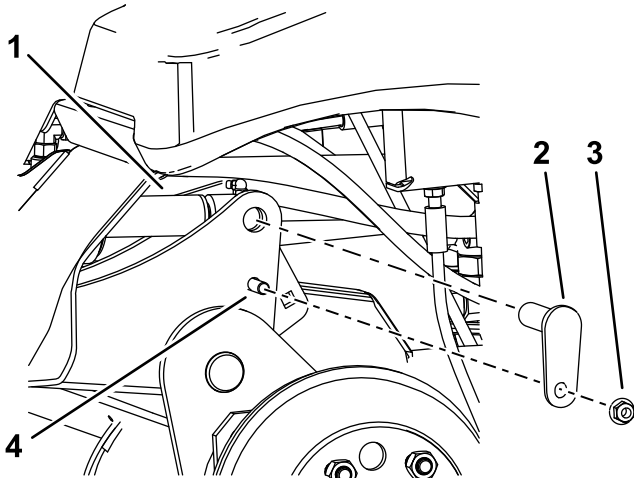

Figure 10
- C. Use a drift punch to align the cylinder rod holes with the lift-arm holes (Figure 10).
- D. Use 2 bolts (3/8 x 1-1/4 inches), 2 nuts (3/8 inch), and 2 small pins to secure the lift arms to the cylinders (Figure 10).